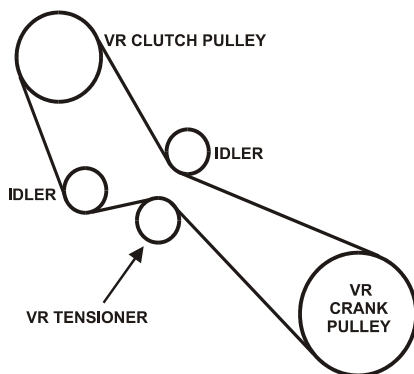

Figure 3.4
- ☐ Install the VR belt (Figure 3.4).